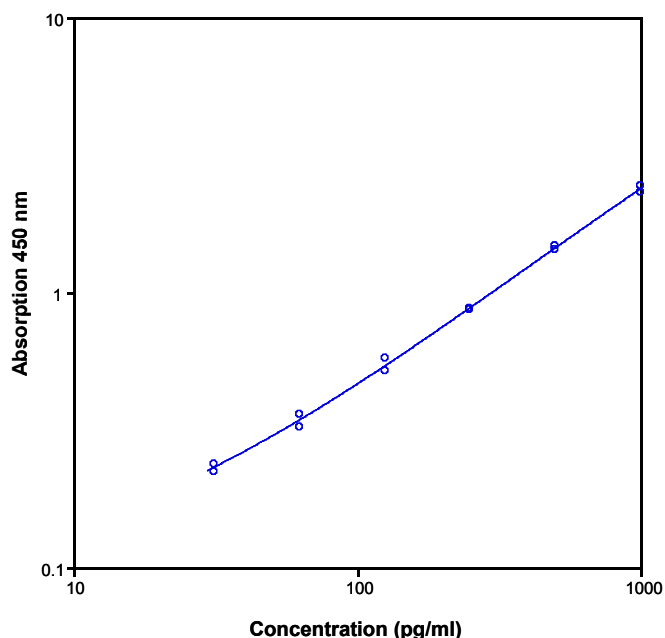

Fig. 8 Representative standard curve for human TGF β 2 ELISA. Human TGF β 2 was diluted in serial 2-fold steps in Assay Buffer (1x).
- A representative standard curve is shown in Figure 8.